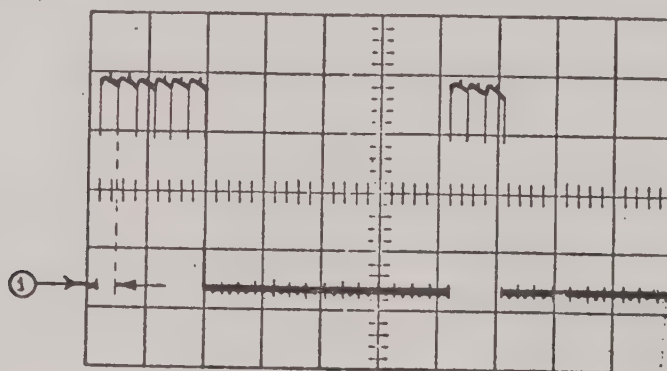

Figure 5-9: Typical 14-zero Condition
- m. Operate the Level and Stability controls and the Erase and Reset button of the Oscilloscope to obtain the waveform of Figure 5-9. The waveform should appear each time the push-button is operated. Observe the waveform carefully; it should contain fourteen time slots in which there are no pulses. Also Measurement ① as measured from the beginning of the pulse train (measuring one time slot), should be between 0.3 and 0.5 cm. (600 and 1000 ms.)
- o. While holding the SELF TEST switch, press and release the Oscilloscope's ERASE/RESET button. Again, carefully note the waveform. A pulse displayed earlier at the left of the screen should have disappeared, while another pulse has appeared such that there are now only thirteen time slots with no pulses. These conditions are shown in Figures 5-9 and 5-10. Also, measurement ①, as measured from the beginning of the trace, should be between 0.3 and 0.5 cm (600 and 1000 ns).